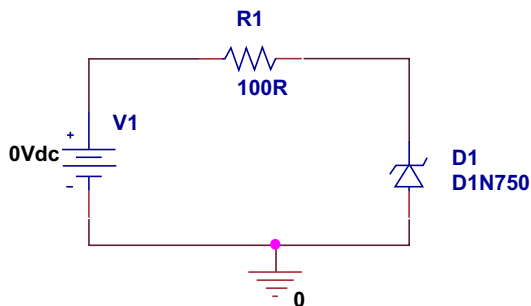

FIGURE 16.15
1. Create a project called **zener_diode** and draw the circuit in Figure 16.15. The 4V7 zener diode can be found in either the eval library or the diode library.